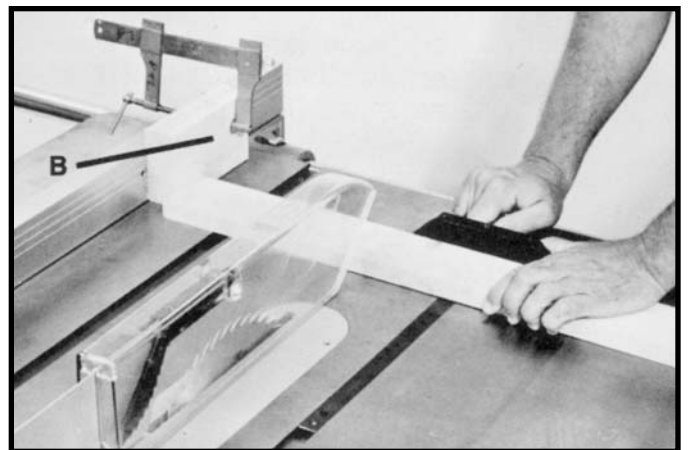

Fig. 59
When cross-cutting a number of pieces to the same length, a block of wood (B) can be clamped to the fence and used as a cut-off gage as shown in Fig. 59. It is important that this block of wood always be positioned in front of the saw blade as shown. Once the cut-off length is determined, secure the fence and use the miter gage to feed the work into the cut.
IMPORTANT: When using the block (B) Fig. 59, as a cut-off gage, it is very important that the rear end of the block be positioned so the work piece is clear of the block before it enters the blade.